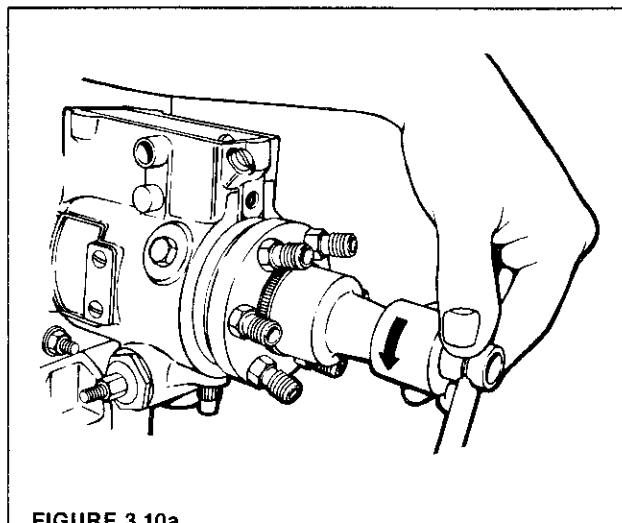

FIGURE 3.10a
STEP 10 Loosen and remove the transfer pump end cap assembly, using the appropriate cap wrench (Figures 3.10a and 3.10b).